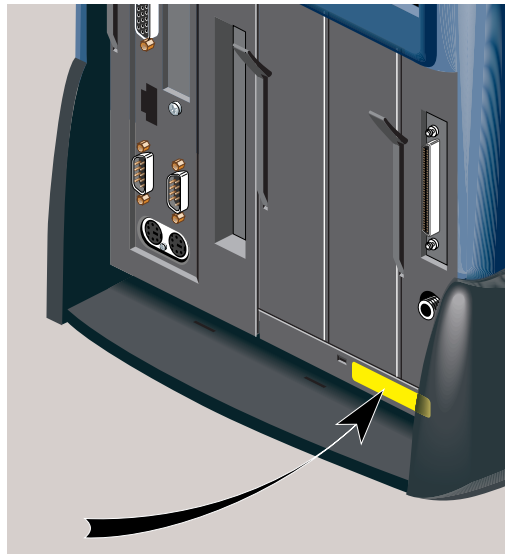

Figure 1-20 Locating the Serial Number On the Rear
- On the rear of the workstation, it is located on the bottom right beneath the audio visual module (Figure 1-20).